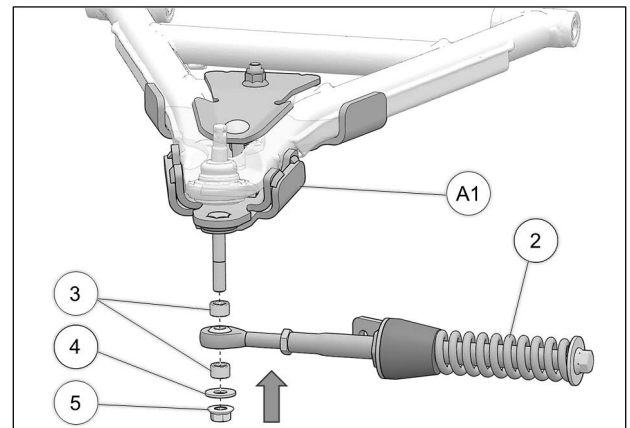

Fig. 18
10. Attach the stabilizing rod (2) to the anchor bracket (A1), using the two spacers (3), washer (4), and nut (5). Torque to 70 Nm [52 lb•ft]. Refer to Fig. 18